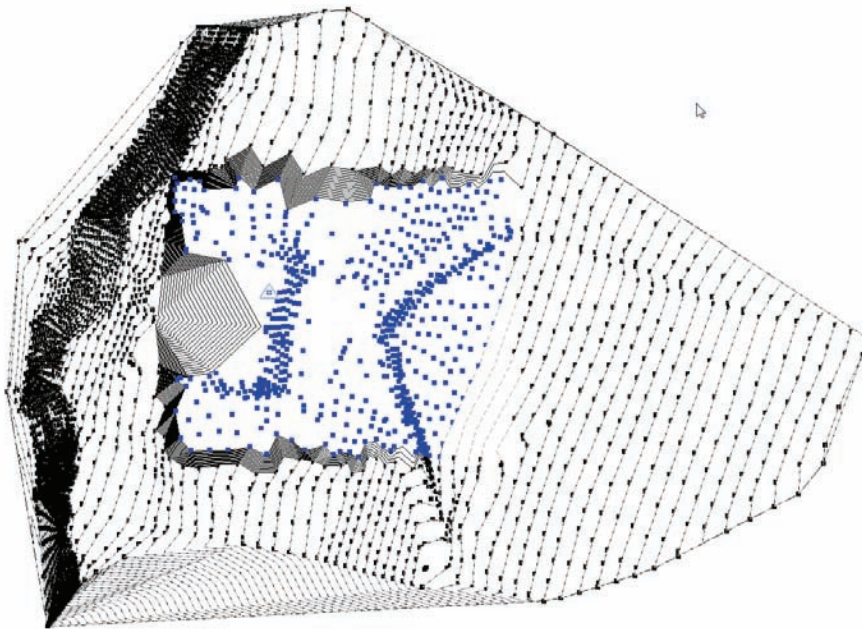

FIGURE 18.37 Selecting a range of points
10. Draw a selection window around the center of the site (doing so selects a bunch of points), as shown in Figure 18.37.